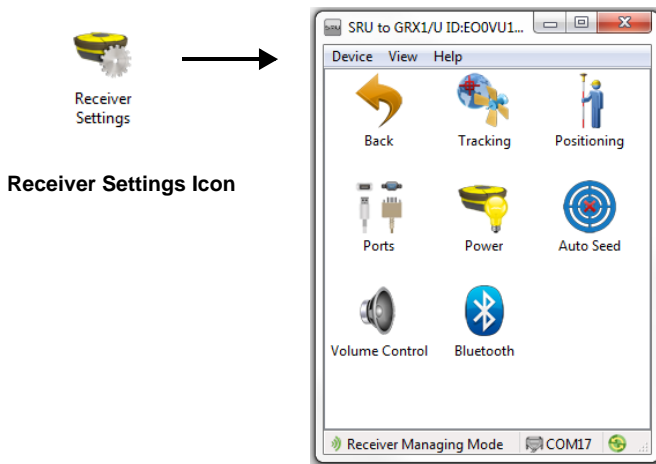
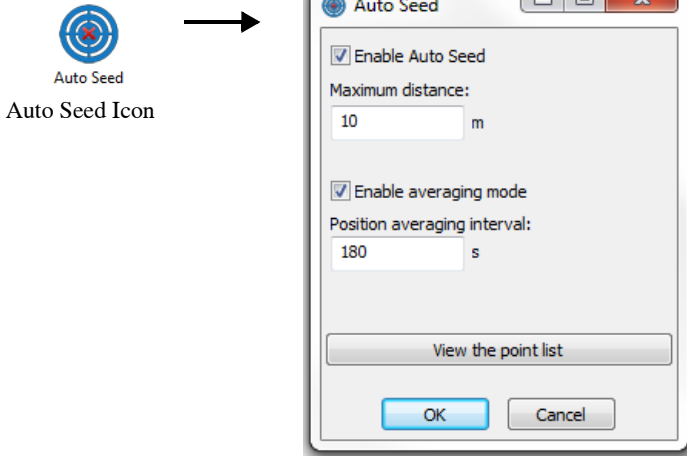

Figure 3-13. Receiver Settings
Figure 3-17. Base Configuration
1. Click on the **Receiver Settings** icon to open the **Receiver Settings**, then use the **Receiver Settings** options to configure the connected receiver (Figure 3-13).
1. For the Base receiver, click the **Auto Seed** icon on the **SRU** dialog box (Figure 3-13 on page 3-17). The **Auto Seed** dialog box displays to set the following parameters (Figure 3-17 on page 3-21), then press **OK** to save.
1. For the Rover receiver, click the **Positioning** icon on the *SRU* dialog box (Figure 3-13 on page 3-17).
2. For RTK surveys, click the **Ports** icon on the **SRU** dialog box (Figure 3-13 on page 3-17), set the following port parameters for the serial port.
4. For RTK Rover receivers, click the *Status* icon on the *SRU* dialog box (Figure 3-13 on page 3-17), to ensure the receiver obtains differential corrections. Usually, the receiver will start to output the coordinates of the antenna’s phase center along with the solution type within 10–30 seconds. However, spread spectrum radios and GSM phones may take as long as 60 seconds to synchronize.